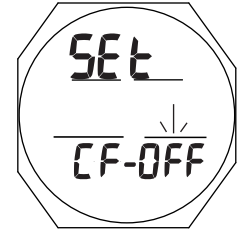

Fig. 52 - SET CONSERVATIVE FACTOR
Set Conservative Factor (CF), information includes (Fig. 52):